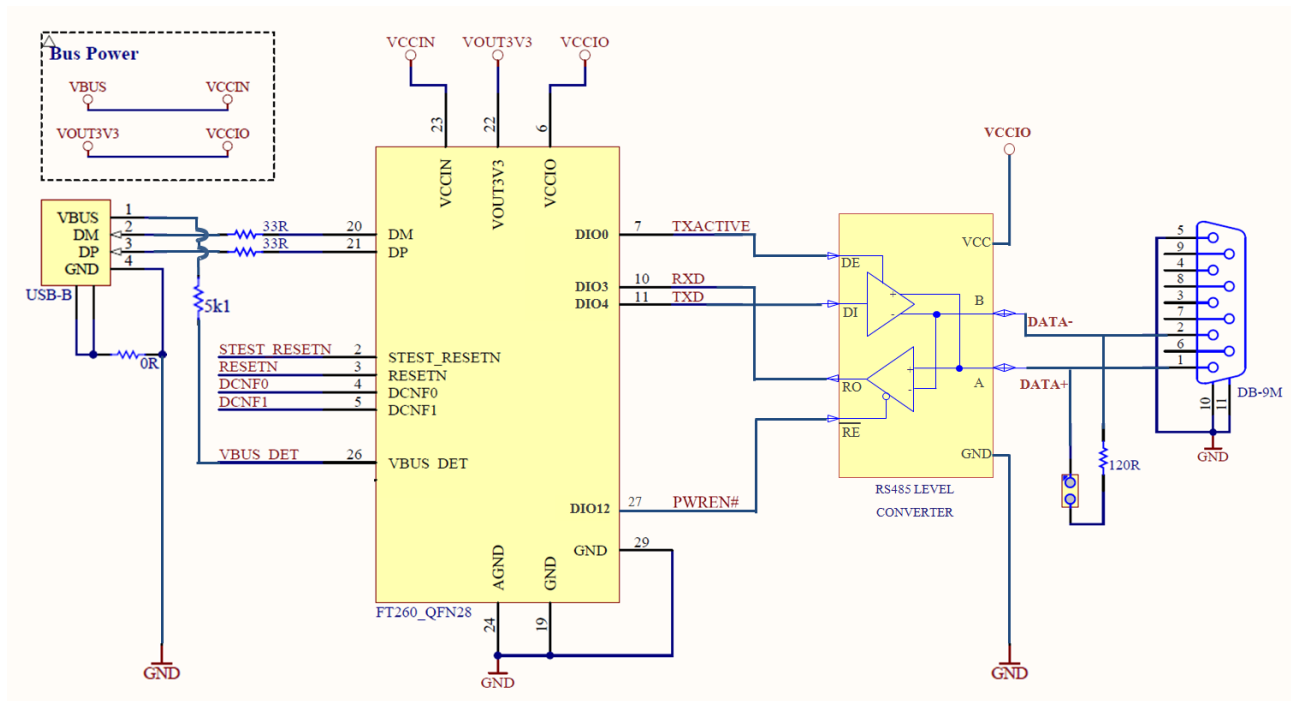

Figure 8.3 Application Example 3: USB to RS485 Converter
An example of using the FT260 as a USB to RS485 converter is shown in Figure 8.3. In this application, a TTL to RS485 level converter IC is used on the serial UART interface of the FT260 to convert the TTL levels of the FT260 to RS485 levels.
In this example, the data transmitted by the FT260 is also present on the receive path of the converter device. This is a common feature of RS485 and requires the application software to remove the transmitted data from the received data stream. With the FT260, it is possible to do this entirely in hardware by modifying the example shown in Figure 8.3 by logically OR-ing the FT260 TX_ACTIVE and the receiver output (RO) of converter device then connecting the output of the OR gate to the RXD of FT260.